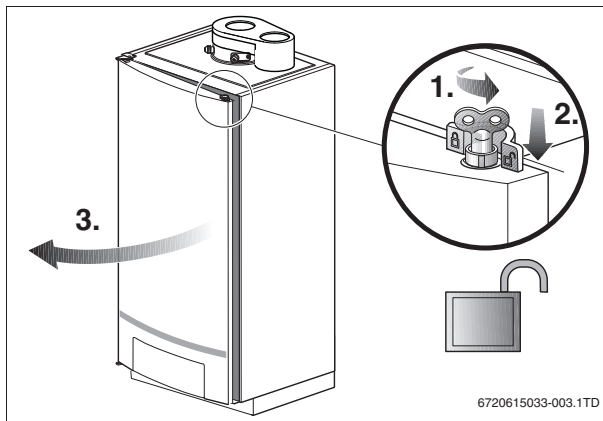

Fig. 2 Opening the boiler door
- ▶ Open the boiler door by turning the vent key through ¼ rotation anti-clockwise (→ fig. 2).